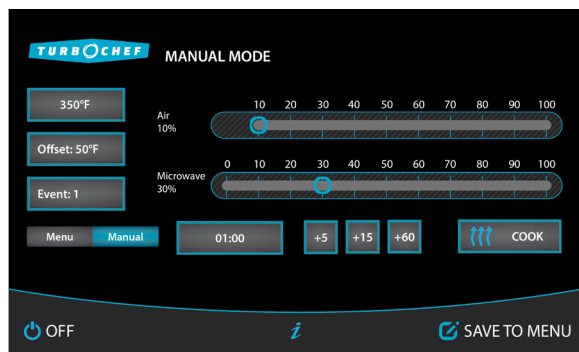

Figure 28: Settings for RF Leakage Test
3. From Manual Mode, create a 1 minute recipe with a single event, 10% air, and 30% microwave (Figure 28, below).